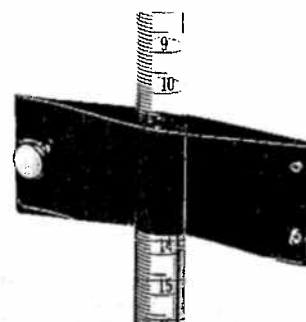

Figure 9.4 Read the volume of titrant with a black background.
- Titrate the Primary Standard Acid #1.** Slowly add the NaOH titrant to the first acid sample prepared in Part A.4. Swirl the flask (with the proper hand⁶) after each addition. Initially, add the NaOH solution in 1- to 2-mL increments. As the stoichiometric point nears, the color fade of the indicator occurs more slowly. Occasionally rinse the wall of the flask with (previously boiled, deionized) water from your wash bottle. Continue addition of the NaOH titrant until the endpoint is reached. *The endpoint in the titration should be within one-half drop of a slight pink color* (see opening photo). The color should persist for 30 seconds. After 10–15 seconds, read (Figure 9.4) and record the final volume of NaOH in the buret.